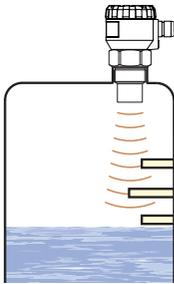

Fig. 5: False echo from obstacles in the tank
- If the emitted acoustic signal of the level meter is affected by **near objects** (roughness on walls of the tank, various partitions, mixers etc.), it is necessary to map false reflections by activating the mode "TEACHING". In case of installed mixers, it is necessary to put the mixers to position under the level meter (direct the mixer paddle to the ultrasonic signal beam) (Fig. 5 and 6).